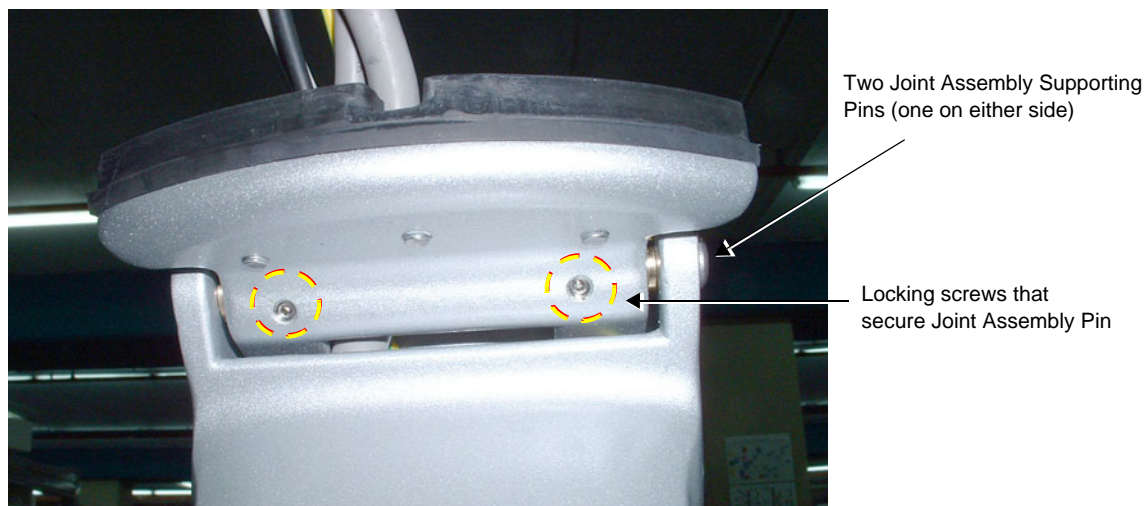

Figure 8-250 Locking Screws Securing the Joint Assembly Supporting Pins
- 8.) Release the two locking screws that secure the two Joint Assembly supporting pins - Figure 8-250.